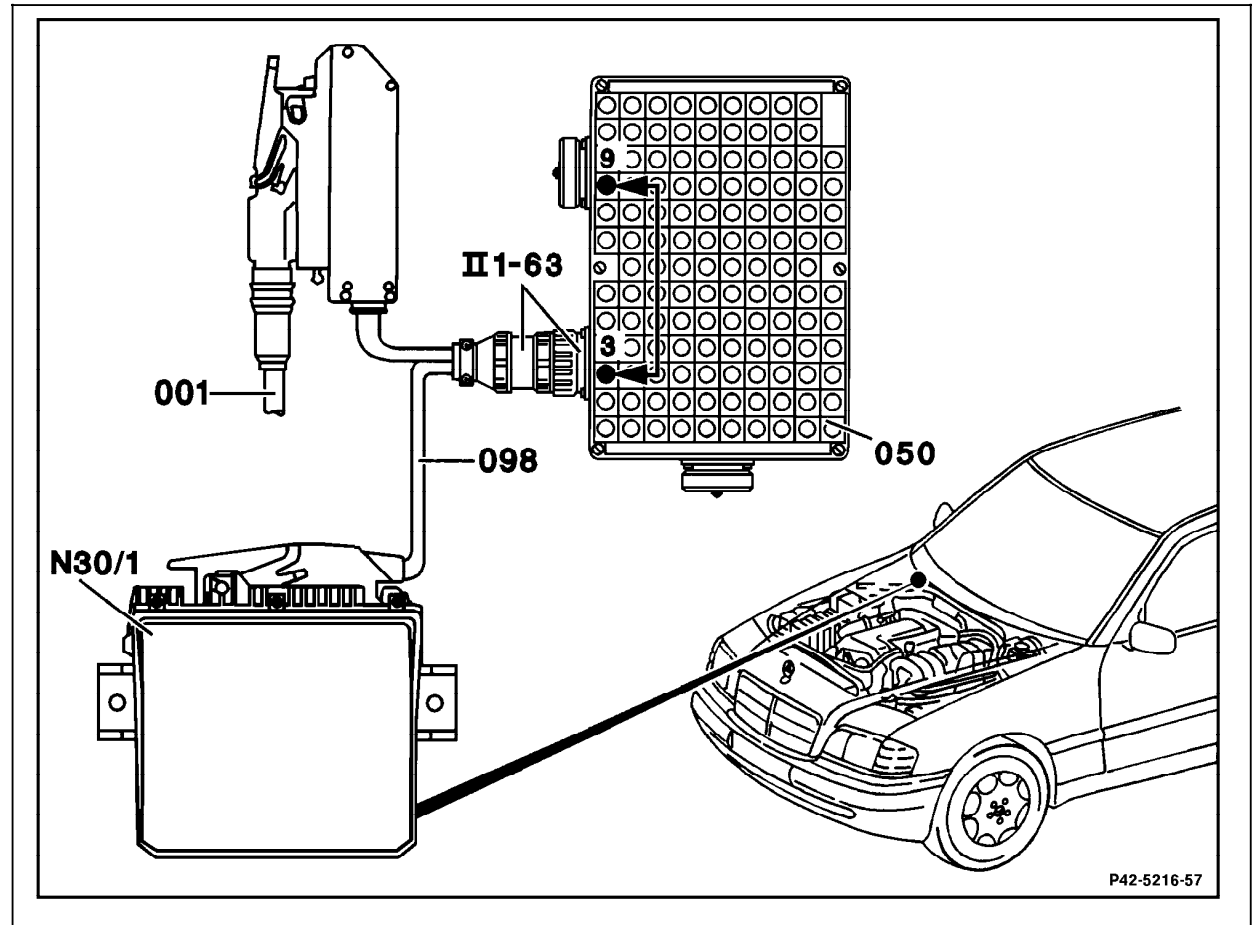

Figure 2
4. Connect socket box with test cable (098) as per connection diagram (Figure 2).